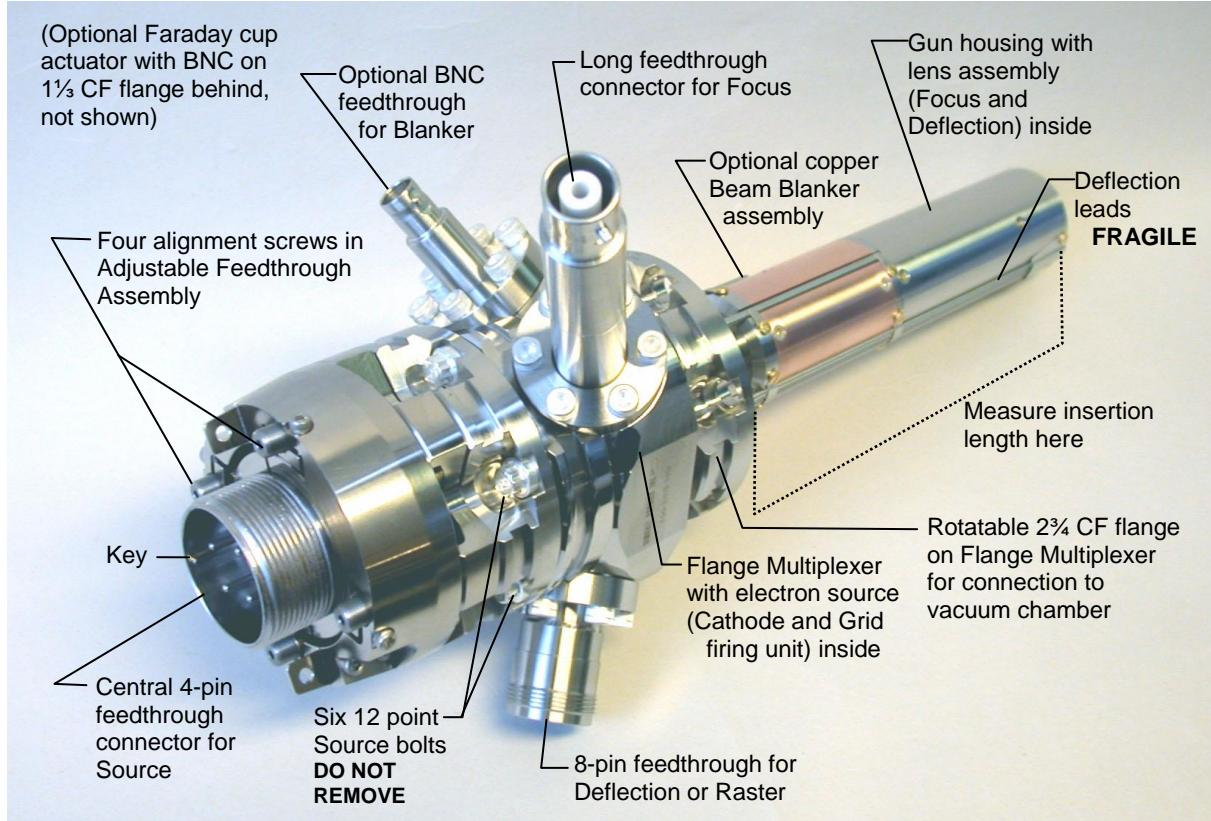

Fig. 2.3-1 EGG-3101 Electron Gun before installation
- Before installing the electron gun, check for adequate clearance and working distance in vacuum system (see Fig. 2.3-1). In the standard configuration, the insertion length into the host vacuum system is 109 mm (or 163 mm with an optional beam blunker assembly), however, custom gun lengths are available so ensure adequate clearance. An optional spool piece is available to mount the gun so that it does not extend into the vacuum chamber (zero insertion length). With an optional Faraday cup assembly, also allow adequate room for the Faraday cup to swing into and out of line.